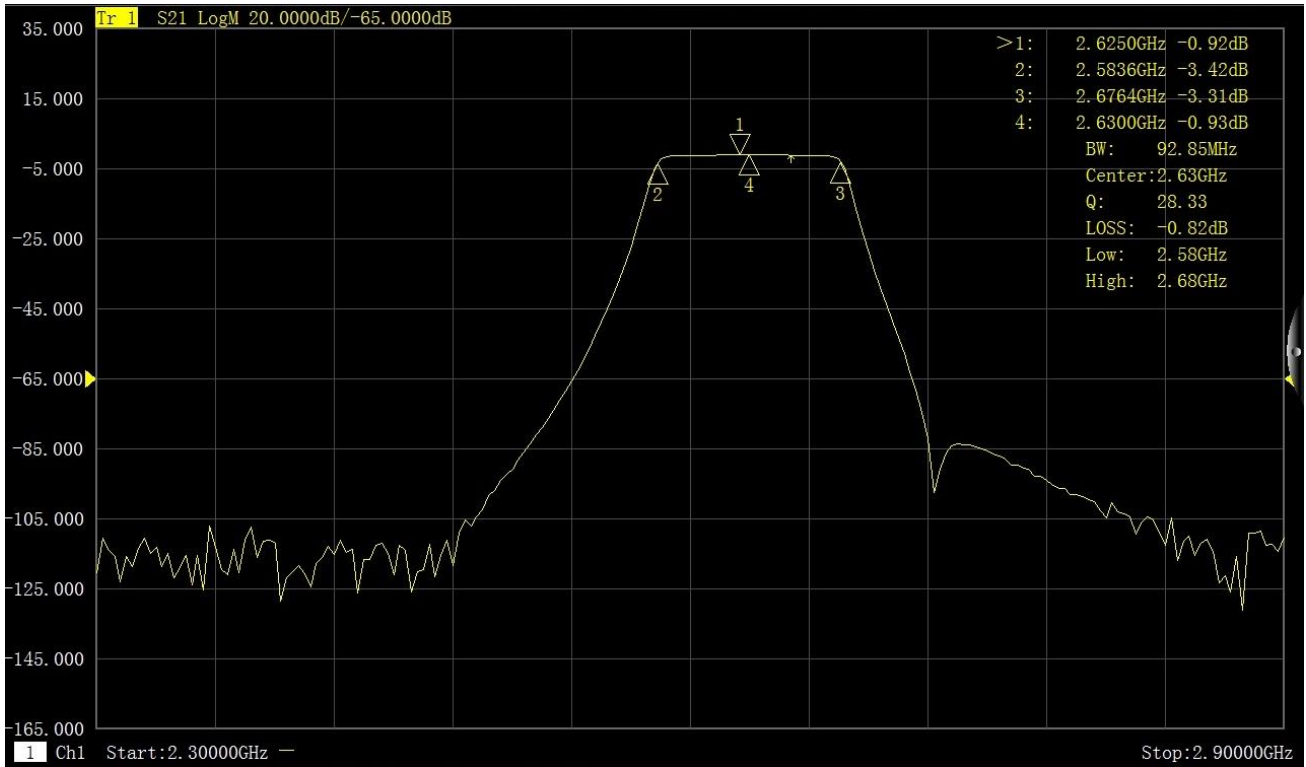

Fig. 3.52 Bandwidth Search
- ① If the [Discrete] is selected in the [Advanced] dialog box, the marker will move to the discrete data point corresponding to the target value.
- ② If the [Discrete] is cleared in the [Advanced] dialog box, the marker will move to the interpolation data point corresponding to the target value.
- **Bandwidth:** if the **bandwidth** searching function is selected, set the **level** (default: -3dB) below the peak in the level box and measure the bandwidth at the set level, as shown in Fig. 3.52. Use Marker 1-4 for measurement. Marker 1 is used to search the maximum peak value, Marker 2 to search the point of specified level on the left side of the peak, Marker 3 to search the point of specified level on the right side of the peak, and Marker 4 to search the center of the bandwidth. The following information will be displayed after measurement.